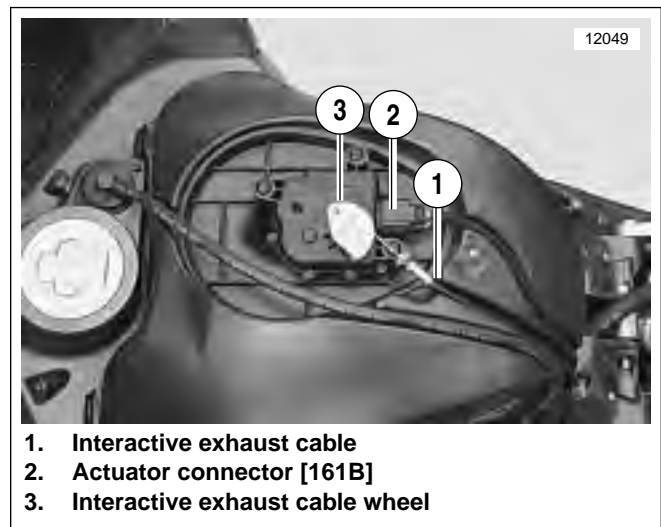

Figure 7-97. Exhaust Actuator (XB12 Models)
10. See Figure 7-97. If removing actuator:
- a. Add free play to interactive exhaust cable (4), loosen jam nut and remove cable from bracket. See 7.6 INTERACTIVE EXHAUST SYSTEM (XB12 MODELS).